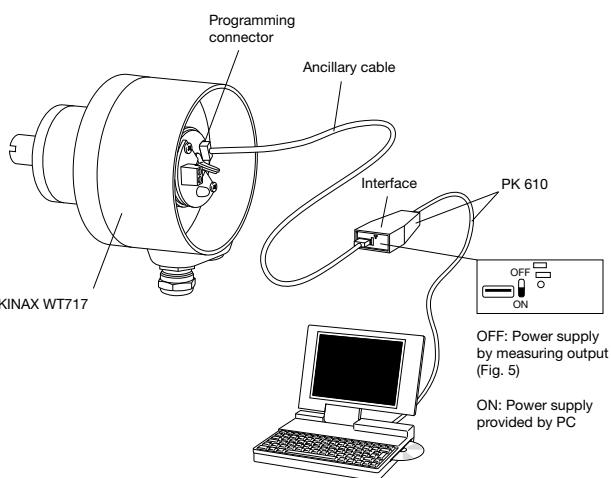
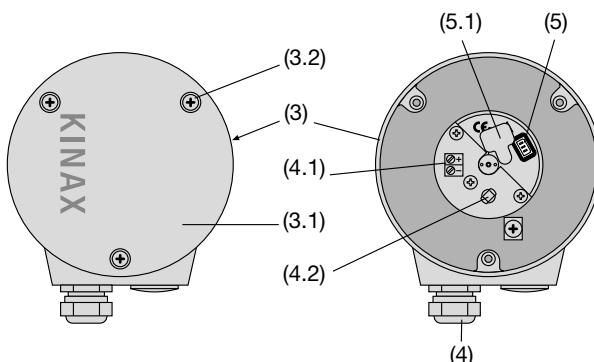

Fig. 3
Fig. 4. Rear (3) with terminals (4.1) and cable glands (4).
1. Remove the cover (3.1 in Fig. 4). Remove the rubber cover (5.1) to gain access to the programming connector (5), (see section "8.1 Connecting transmitter"). Connect the KINAX WT 717 to the programming device according to Fig. 3. Start the 2W2 configuration software. If necessary, configure the device with the required measuring range data.
- Put the transmitter into operation and connect the programming device according to Fig. 3 (AUX switch on the PK 610 on the OFF position).